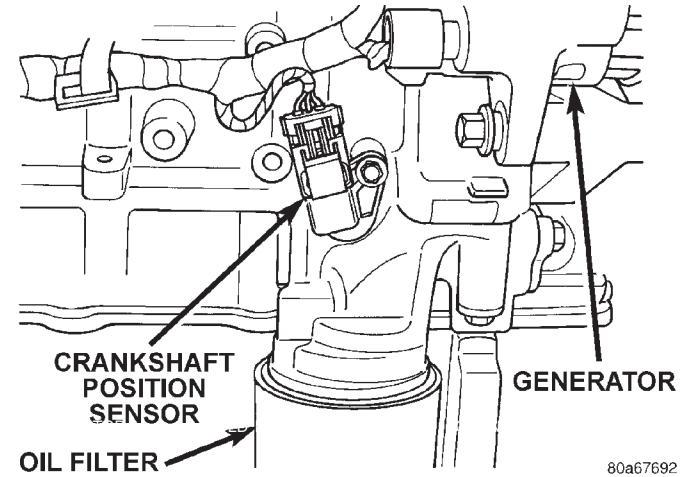
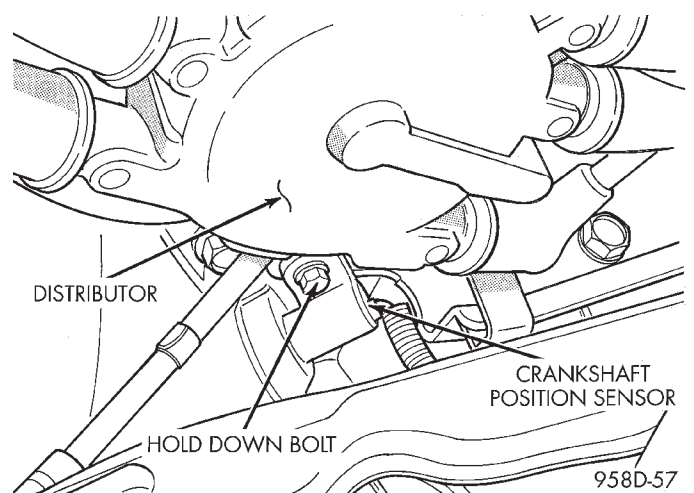

Fig. 50 Crankshaft Position Sensor—2.4L Engines—Typical
Fig. 51 Crankshaft Position Sensor—2.5L Engine
(17) Inspect electrical connections at the generator. Check the generator belt for glazing or damage.
(18) Inspect electrical connector at the crankshaft position sensor (Fig. 50) or (Fig. 51).